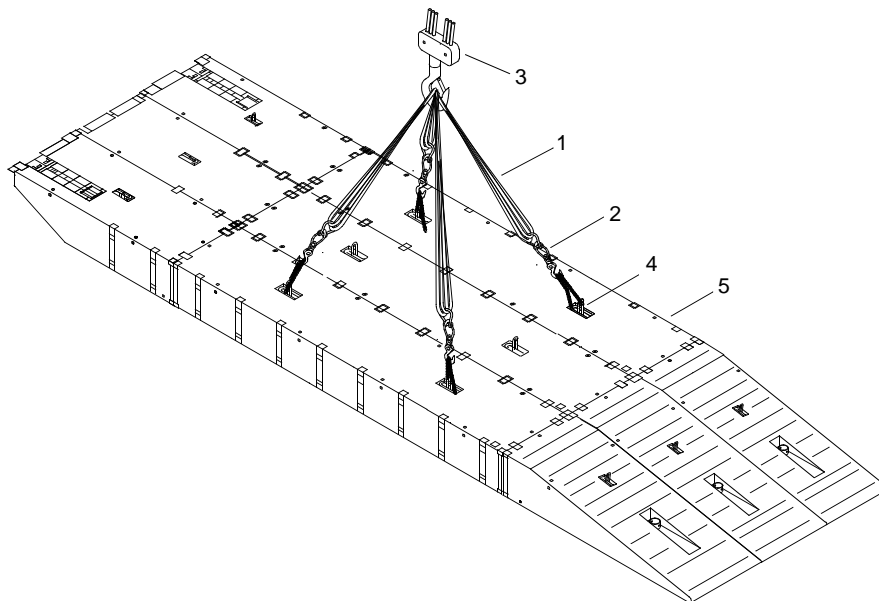

Figure 18. Lifting Combination Beach/Sea End Section
- Attach four 53,000 lb slings (figure 18, item 1) and 36,000 lb adjustable chain slings (figure 18, item 2) from crane (figure 18, item 3) to padeye shackles (figure 18, item 4) on combination beach/sea end section (figure 18, item 5).
- Using slings (figure 18, items 1 and 2) and crane (figure 18, item 3), lift combination beach/sea end section (figure 18, item 5).
- Remove 36,000 lb adjustable chain slings (figure 18, item 2) from padeye shackles (figure 18, item 7) on combination beach/sea end section (figure 18, item 5).
- Remove 53,000 lb slings (figure 18, item 1) from 36,000 lb adjustable chain slings (figure 18, item 2) and crane (figure 18, item 3).